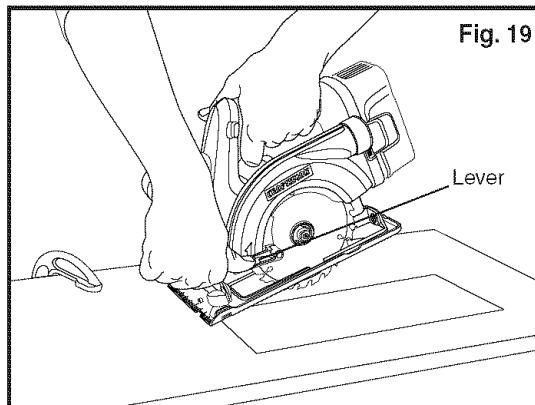

Fig. 19
MAKING POCKET CUTS (Fig. 19)
2. While holding the lower blade guard up by the lever, firmly rest the front of the saw base flat against the workpiece with the rear handle raised so the blade **does not** touch the workpiece (see Fig 19).